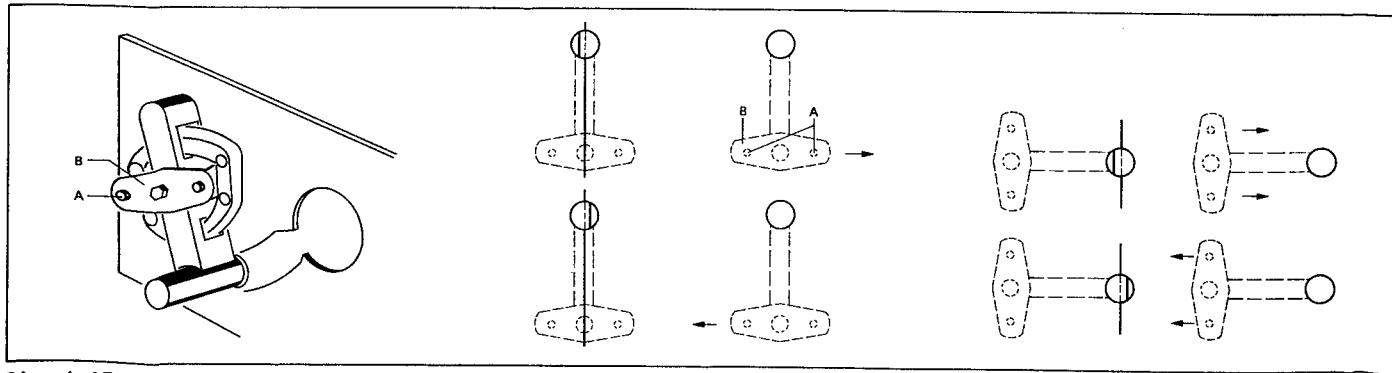

Fig. 4.15
→ Fig. 4.15
- Loosen the 2 screws [A] so that the bearing plate [B] can be shifted. (Fig. 4.15)
- Correct the position of the bearing plate according to Fig. 4.15.